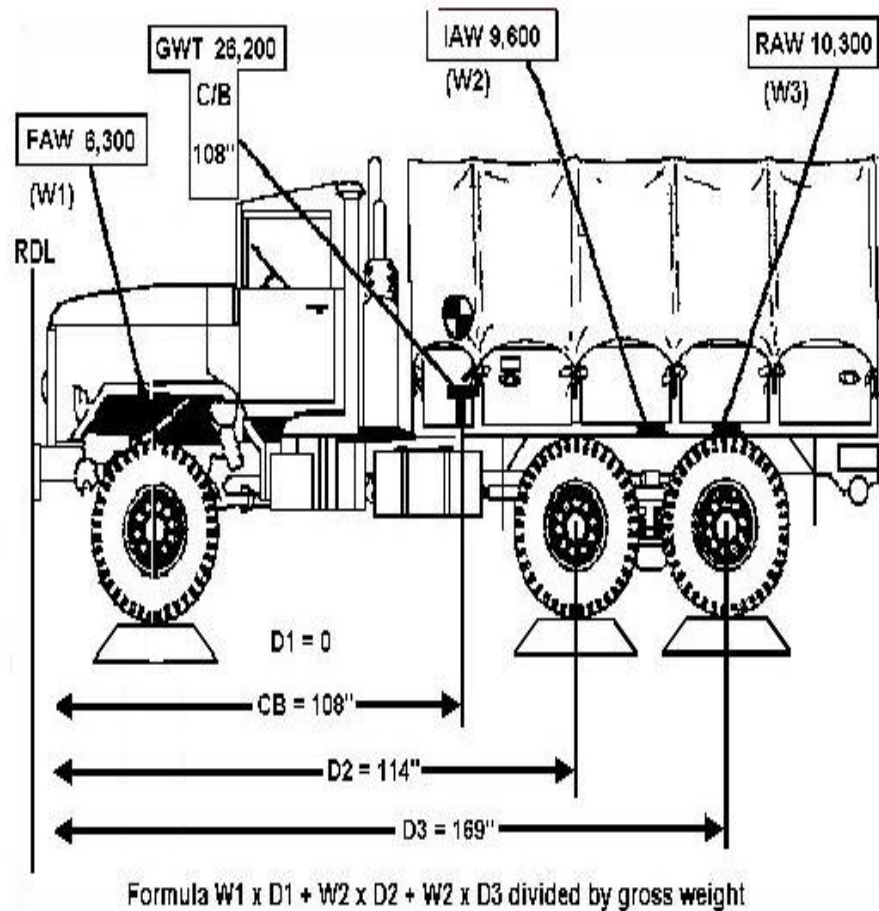

Figure 3-134
b. For tandem axles with separation that exceeds 48 inches, compute axle distances separately (see Figure 3-134).